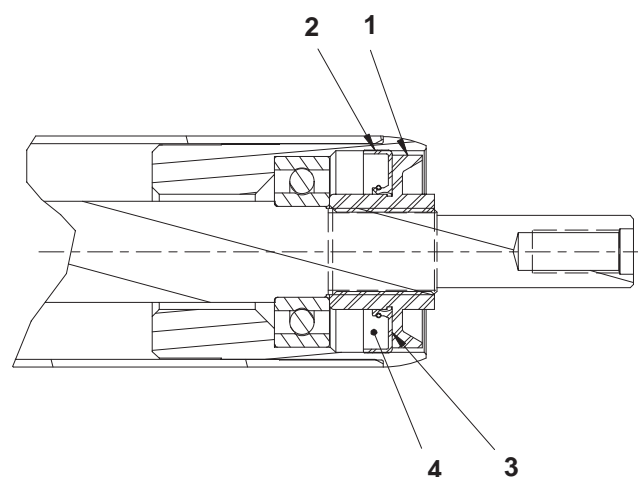

Figure 2
6. Apply a coating of #2 grease to the nut surface shown in figure 2.
7. Install seal onto nut positioning as shown in figure 2.
8. Pack the back of the seal 75-90% full with #2 grease as shown in figure 2.
9. Install a nut with seal onto each end of the roller (Fig. 2).
10. Tighten each nut until it bottoms out on the bearing (Fig. 2).
11. Remove the nut from each end of roller (Fig. 2).